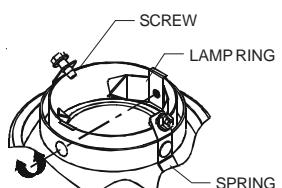

FIG.12
2. Screw the 2 screws (supplied) on the springs to lock the lamp ring in place. (Fig.12)